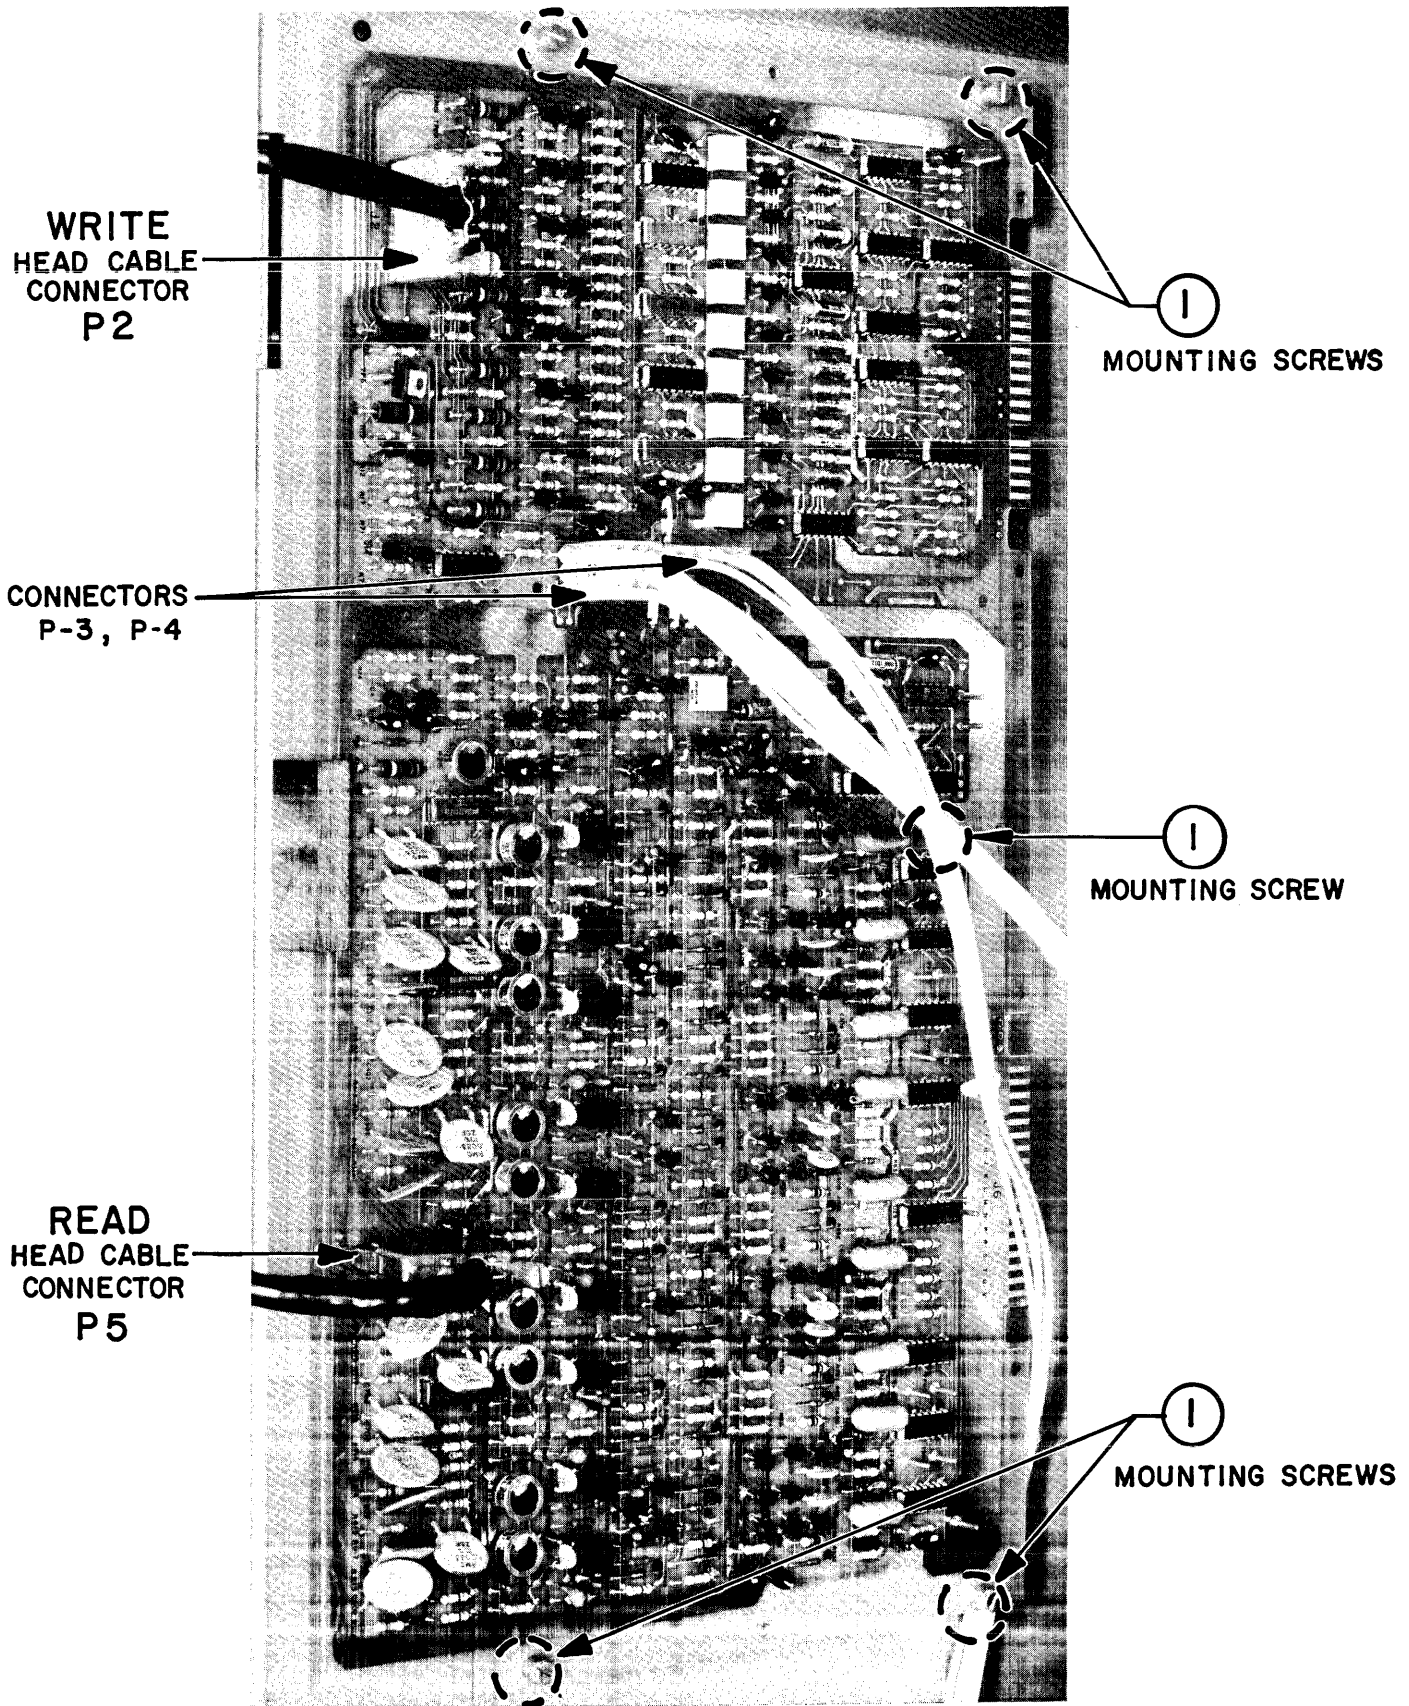

Figure 37. Data Electronics Module Replacement
2. Remove connectors P3 and P4. (Refer to Figure 37.)
4. While supporting the module to prevent damage, remove the 5 Captive screws (item 1, Figure 37) holding the module to the stand-offs.
2. Remove the head connectors P2 and P5 (refer to Figure 37) from the Data Electronics module mounted on the left side of the transport box, using an appropriate size slot screw driver. Do not use fingers for this purpose so that the possibility of damaging connector wires is eliminated.